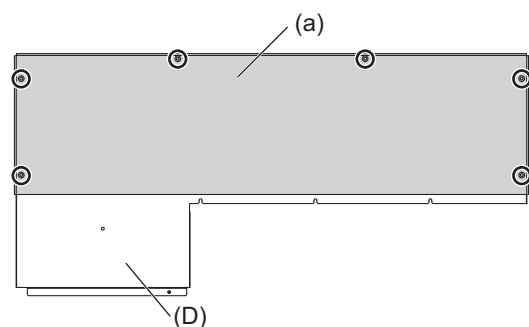

Fig.7
•To avoid dew condensation, use insulated screws in the places marked with circles in Fig. 7.